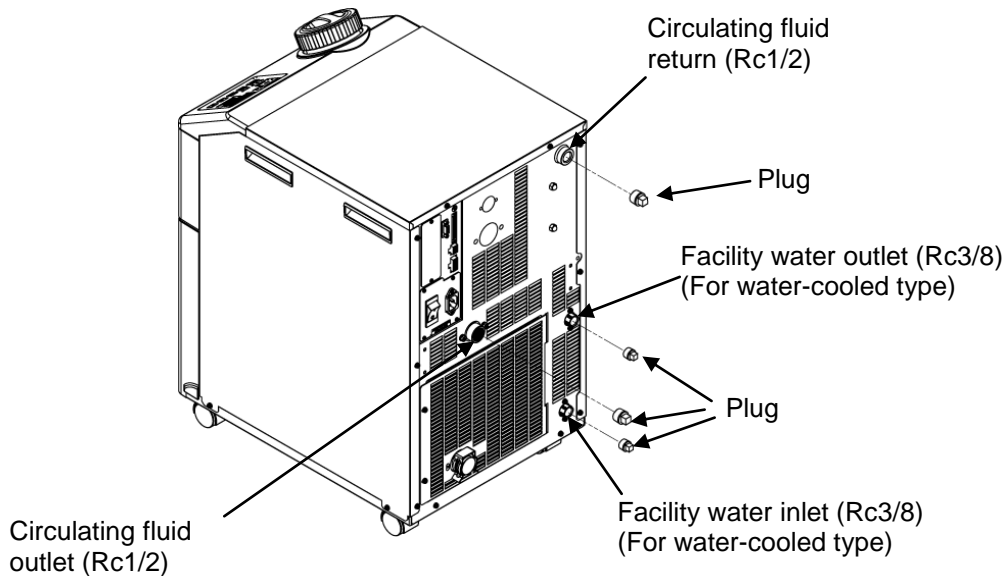

Fig. 8-6 Plug to the piping of the product
- 9. Refer to Fig. 8-6 to mount the plug to the piping of the product.